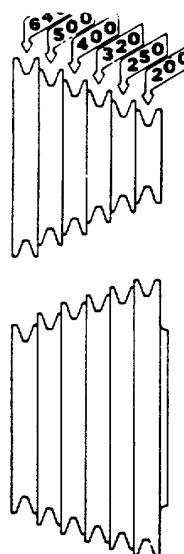

FIGURE 32
- (1) To change speed, turn motor OFF. Open belt cover and pull tension release handle to detent. Shift V-belt to groove providing desired speed (Figure 32). For easiest belt shifting always move belt to smaller diameter groove on either pulley first. Release belt tension, release handle, and close belt cover.
- (2) The following chart is a guide to use in selecting the proper speed. Condition of the bore and other variables may require you to try a faster or slower speed than that indicated in the chart.